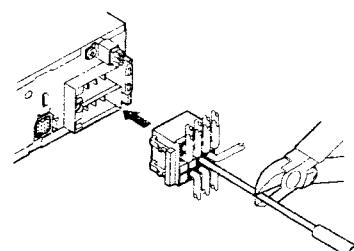

Figure 2
- When the car stereo is installed in 1998 and later Volkswagen models, make sure to cut the car lead wire connected the A-5 terminal. (A breakdown could occur if the lead wire is not cut.) After cutting the lead wire, insulate the front end of the lead wire with insulation tape to prevent the risk of short-circuits. (Figure 2)